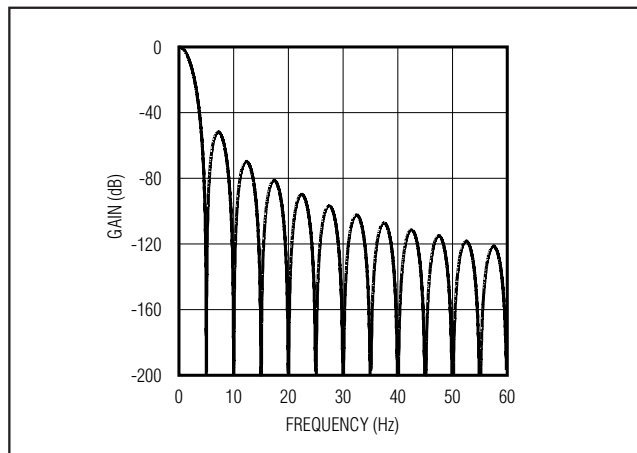

Figure 2. Frequency Response of the SINC4 Filter (Notch at 60Hz)
**Note 7:** Measured at DC by changing the power-supply voltage from 2.7V to 5.25V and measuring the effect on the conversion error with external reference. PSRR at 50Hz and 60Hz exceeds 120dB with filter notches at 50Hz and 60Hz (Figure 2).
Figure 2 shows the filter frequency response. The SINC4 characteristic  $-3\text{dB}$  cutoff frequency is  $0.228$  times the first-notch frequency ( $5\text{Hz}$ ).